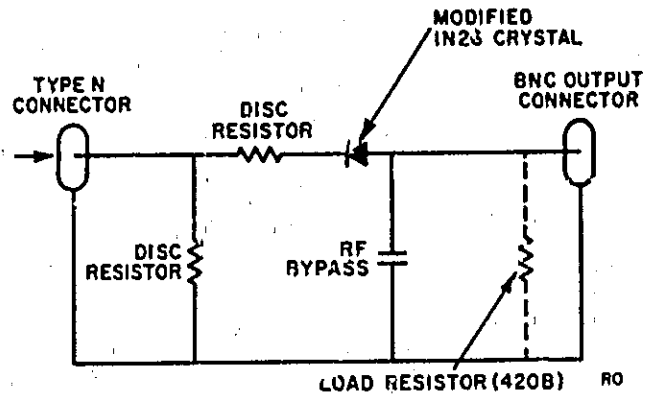

Figure 3. Model 420A Equivalent Circuit
12. An equivalent circuit for the Model 420A is shown in figure 3. The equivalent circuit for the Model 420B is the same as for the Model 420A, except for the load resistor, which provides the good square-law response. The Model 420B disc resistors are matched to within 5 ohms of each other. The dielectric for the rf bypass capacitor is the insulating film around the crystal body.